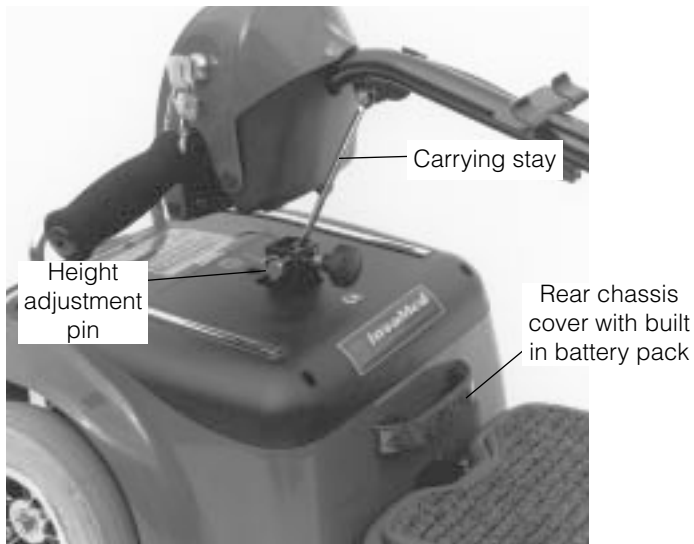

Fig. 7
8. Place the height adjustment pin through the holes in the seat post and the loop of the carrying stay. Secure the pin by fitting the U-spring to either end of the pin (*Fig. 7*).